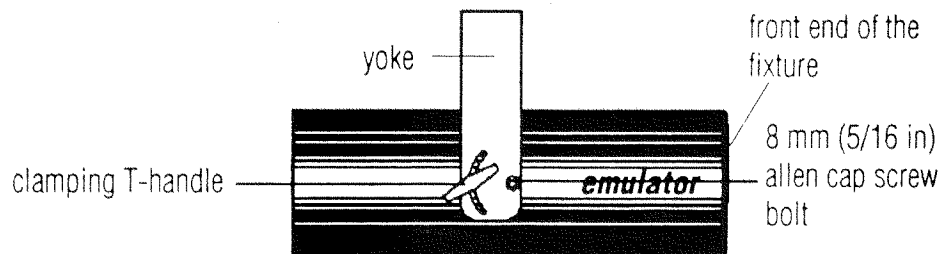

Figure 2.2 Emulator Fixture - Side View
1. Remove the two 8 mm (5/16 in) allen cap screw bolts and the two clamping T-handles from the fixture. (See Fig. 2.2)